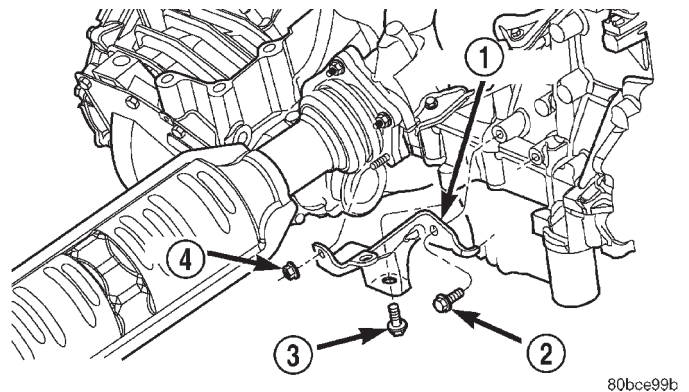

Fig. 10 Exhaust Manifold Support Bracket—Federal & LEV
- (1) Remove muffler and exhaust pipe. Refer to procedure in this section.
- (2) Disconnect downstream oxygen sensor electrical connector.
- (3) Remove exhaust manifold support bracket (Federal and LEV only) (Fig. 10).